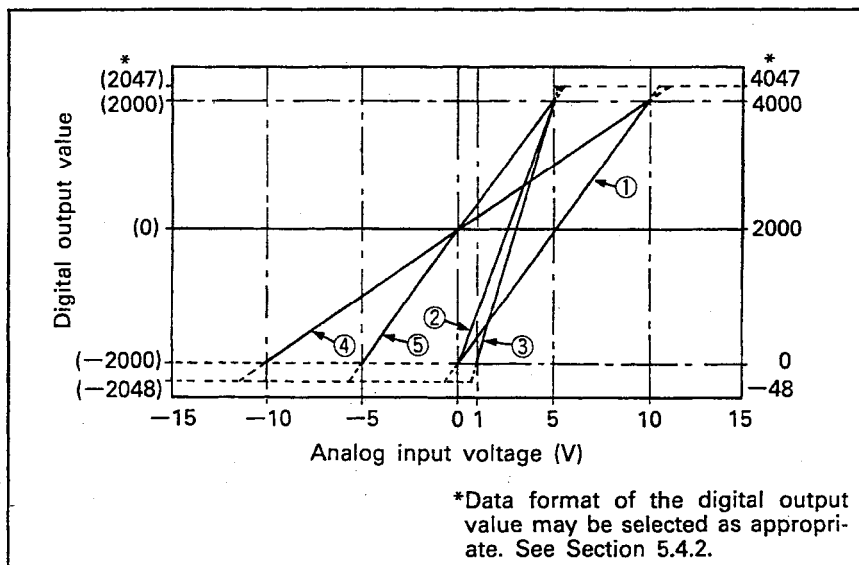

Fig. 3.1 I/O Characteristics
- b) When the input voltage is in the range from -10 to 0 to $+10$ V, the maximum resolution and overall accuracy are within the quoted range of performance specifications. However, if this range is exceeded (dotted line in Fig. 3.1), the resolution and accuracy will be impaired.